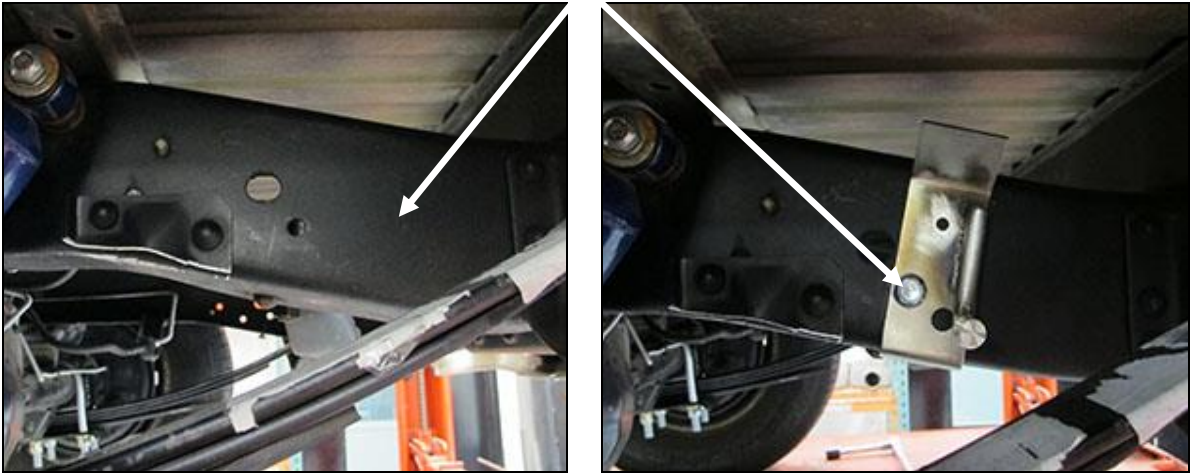

Figure 2
10. Attach the left and right side tailpipe hangers to the outside faces of the frame, behind the rear tires, using the supplied 3/8 x 1” nuts and bolts. The 90° bend tabs on the hanger plates must be wrapped under the frame rail. Ensure that these are touching the frame during and after the bolt tightening operation (**Figures 2 & 3**).